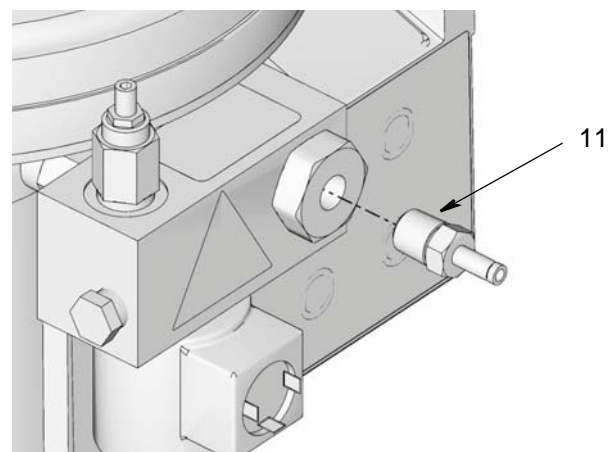

FIG. 8
5. Apply thread sealant to threads of tube end adapter and install adapter (11) into valve outlet (FIG. 8).